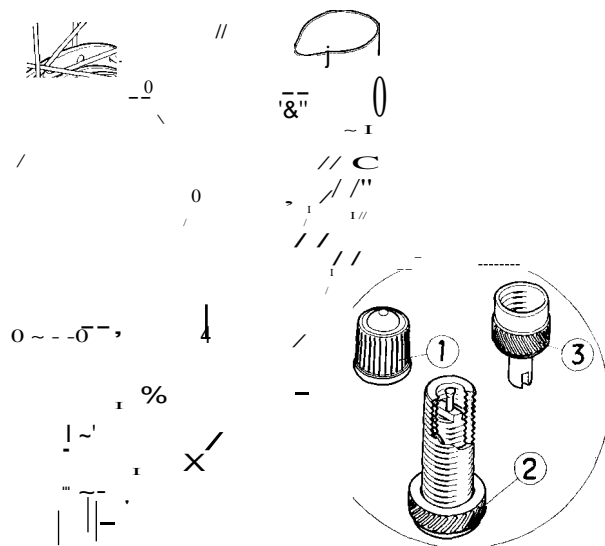

Fig. 5
After inflation, it is advisable to test the valve for leakage: put a soapy mixture over the valve opening, then wait a few seconds to see if bubbles form. If this occurs, screw the valve core down tighter with a valve core tool (3) such as is illustrated in figure 5. Replace the valve cap (1) and be sure that the valve-stem locknut (2) is well tightened,